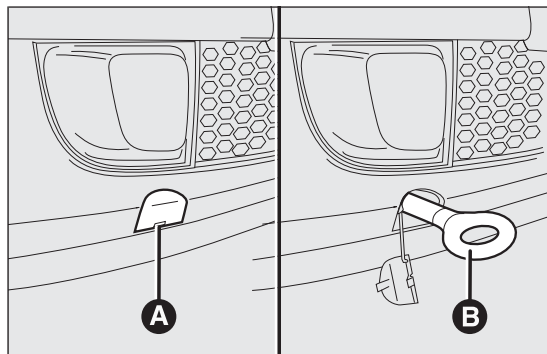

fig. 133
- ☐ release the cap A fig. 133